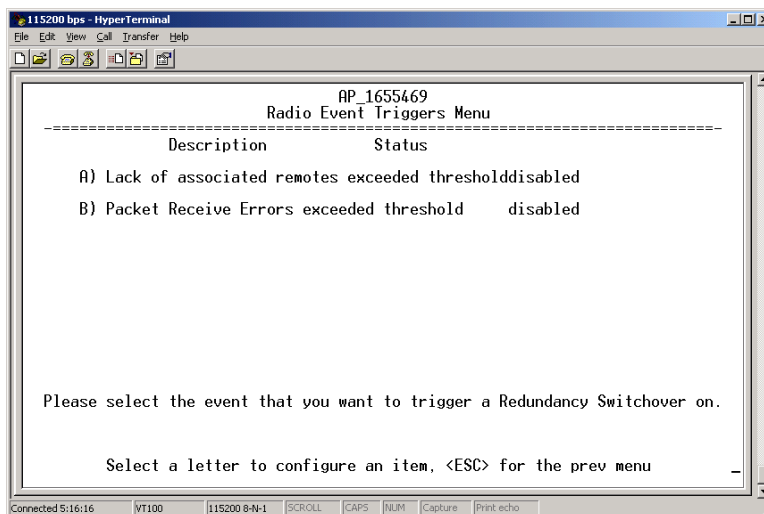

Figure 3-74. Radio Event Triggers
- **Radio Event Triggers**—This selection opens a submenu (Figure 3-74 on Page 106) where you can set/view the trigger status for Radio Events, such as a loss of associated Remotes or excessive packet errors.